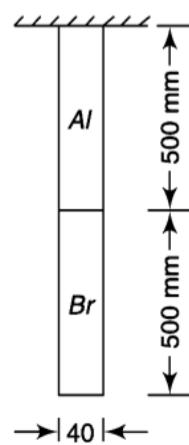

Fig. 7
8. (a) A vertical compound shaft is made by securely fixing a 500-mm long brass bar to a 500-mm long aluminium bar so that the total length of the shaft is 1 m as shown in Fig. 7. The diameter of each bar is 40 mm. The aluminium bar is rigidly fixed at its upper end. Determine the maximum torque which can be applied at the lower end of the shaft if the maximum angle of twist is not to exceed 3° and the maximum shear stress in aluminium and in the brass 78 MPa and 55 MPa respectively. $G_b = 34 \text{ GPa}$ and $G_a = 28 \text{ GPa}$.